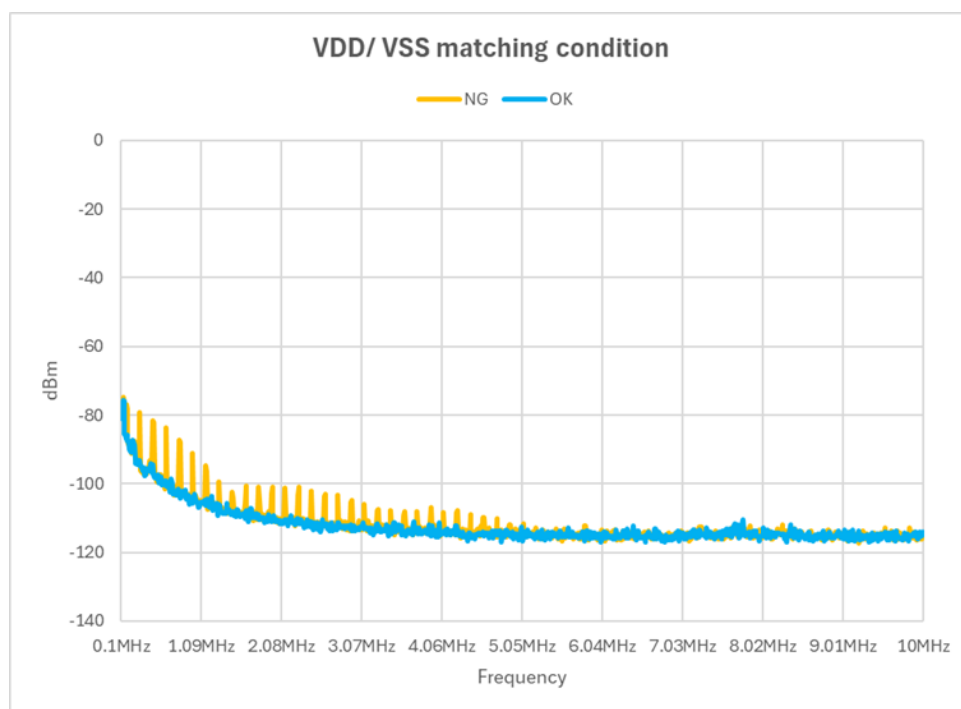

Figure 1. PE42020 low-frequency comparison of spurious (NG) vs. no spurious (OK) performance dependent on the VDD/VSS supply levels
Having a significant difference between the absolute voltage levels of VDD and VSS can cause spurious to occur at low frequency. The transient startup caused by applying the VSS voltage first can lead to improper operation of the internal bias circuits that generate the bias currents. This can result in spurious generation at low frequencies, as indicated by the yellow no-good (NG) trace in Figure 1, if the subsequently applied VDD level is not well aligned with that of the VSS level.